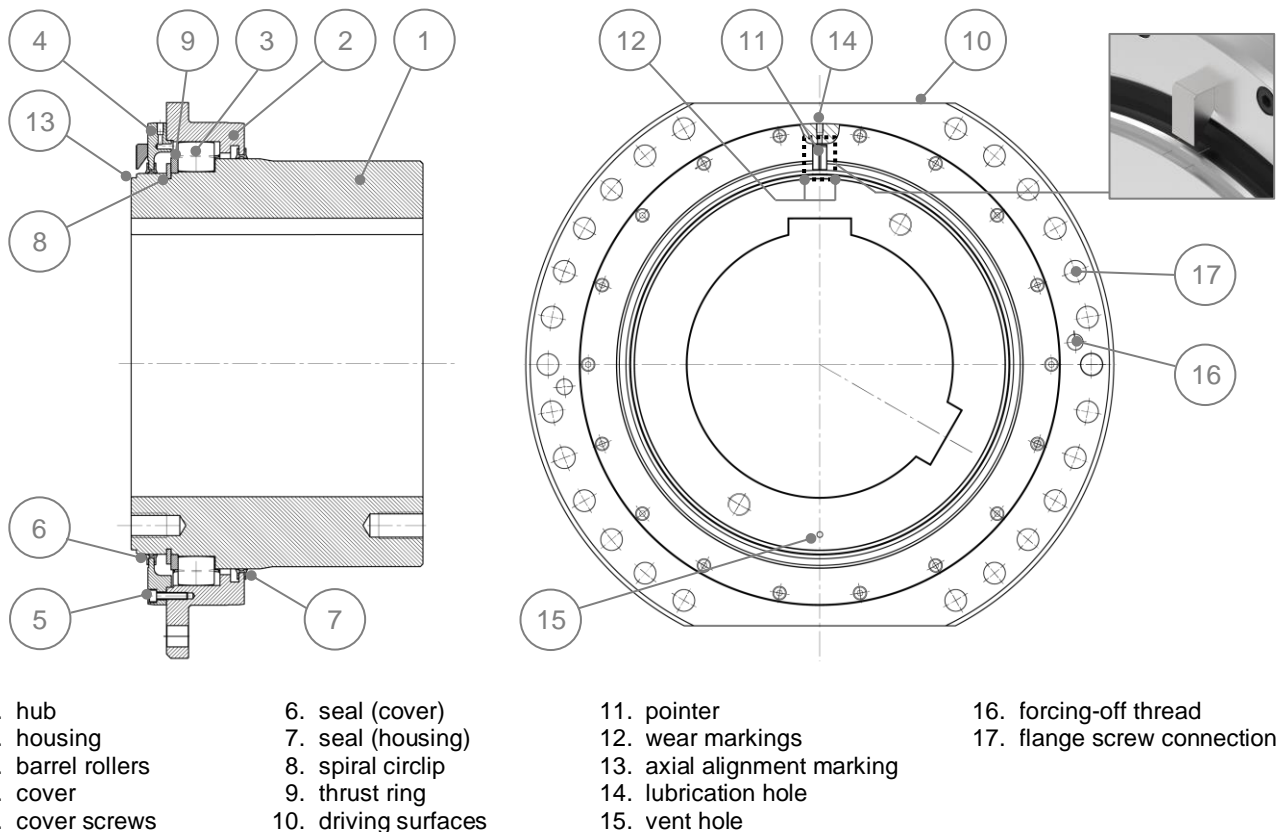

Fig. 1: Schematic structure of the RINGFEDER® TNK TKVO
The RINGFEDER® barrel coupling TNK TKVO, Fig. 1, transmits the torque by means of barrel-shaped bodies (item 3). These are embedded in semicircular splines half in the hub (item 1) and half in the housing (item 2). This enables the transmission of a radial force while simultaneously compensating for angular misalignment between the elements of the drive train to be connected.
- Fix the cover (item 4) with the cover screws (item 5). Make sure that the cover is positioned in circumferential direction to the hub in such a way that the pointer is within the wear markings and the lubrication hole is opposite the vent hole (item 15) if possible. The vent hole should be positioned as far down as possible, Fig. 1.
- First always hand-tighten two opposite cover screws (item 5) and then tighten them in turn to the required tightening torque T_{AS} from Table 2.